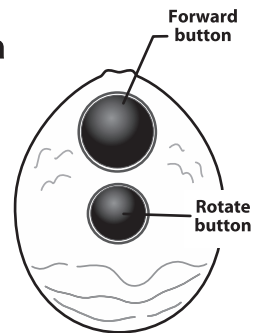

Fig. 3
2. Move the tarantula forward or make it turn using the buttons on the controller (See Fig. 3).